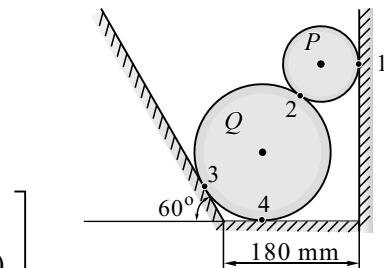

Fig. 3.E13
14. Two identical rollers each of weight 500 N are kept in a right-angle frame ABC having negligible weight as shown in Fig. 3.E14. Assuming smooth surfaces, find the reactions induced at the points P , Q , R and S . Also find the reactions at B and C .